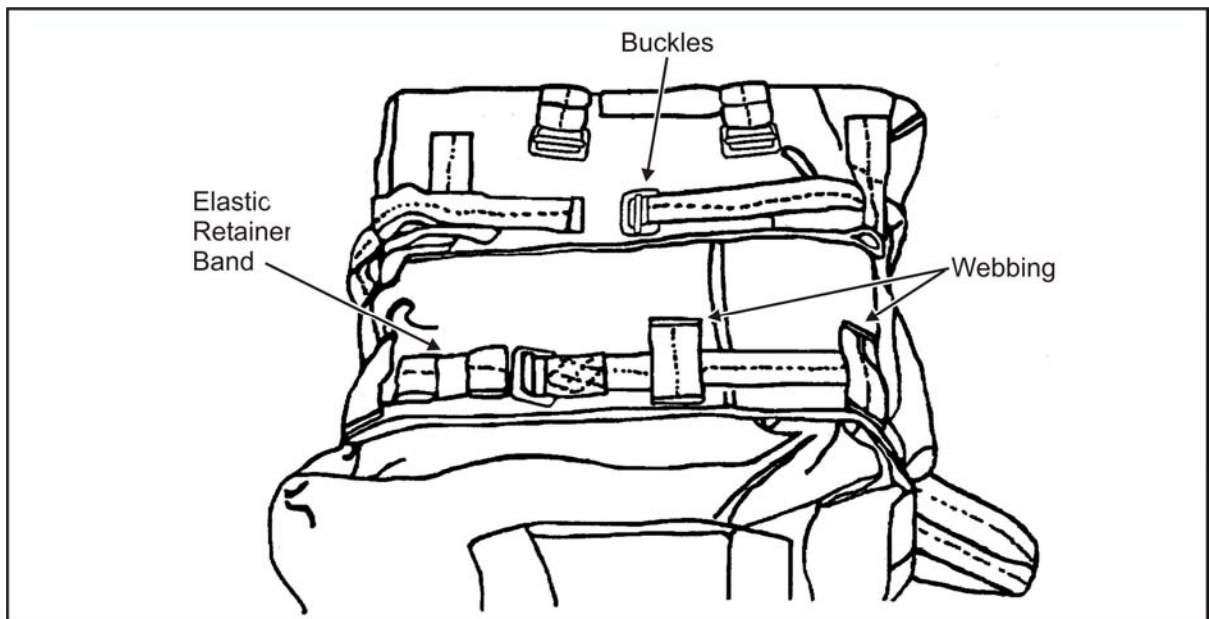

Figure 5-18. SARPELS With Secured Horizontal Straps
- Inserts the horizontal straps through the webbing and buckles (Figure 5-18, page 5-19). On the SARPELS model with three horizontal straps, the top strap is optional, depending on the size of the cargo.